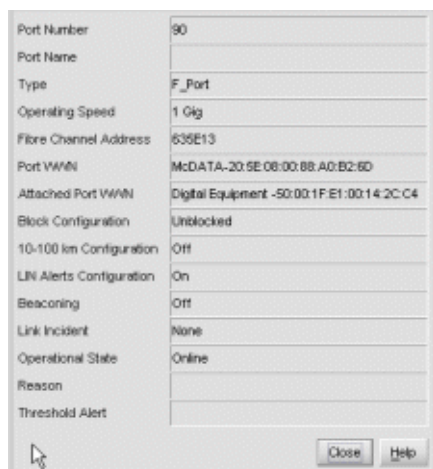

Figure 60: Port Properties dialog box
7. Double-click the graphical port connector used for the fabric ISL. The Port Properties dialog box displays, as shown in Figure 60.